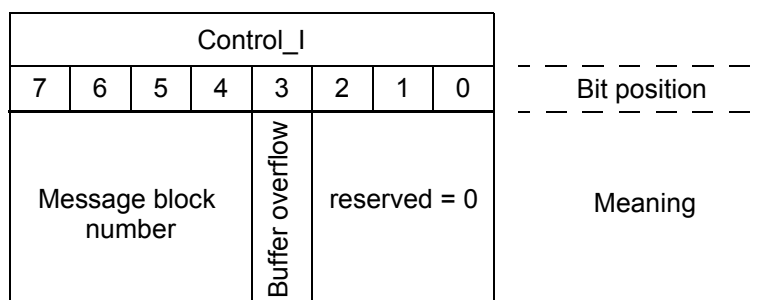

Figure 2-3 Handshake byte "Control_I" (input direction)
- In the case of buffer overflow, the oldest entry is replaced by the current entry. The PROFIBUS-DP master is informed about the buffer overflow with a bit in the handshake byte "Control_I" (ref. to Figure 2-3).
In Figure 2-3 the meaning of the individual bits of the handshake byte "Control_I" are represented.